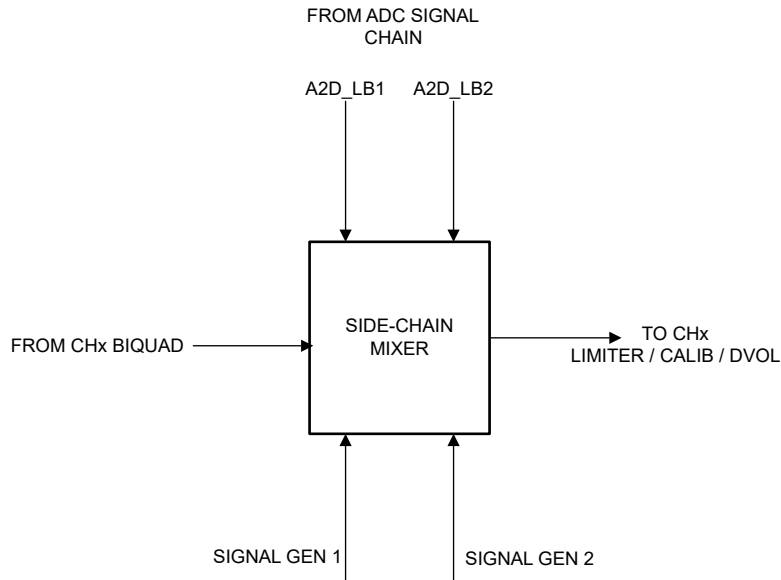

Figure 3-6. Side-Chain Mixer
As shown in Figure 3-6, the Side-Chain (SC) mixer mixes the following signals: